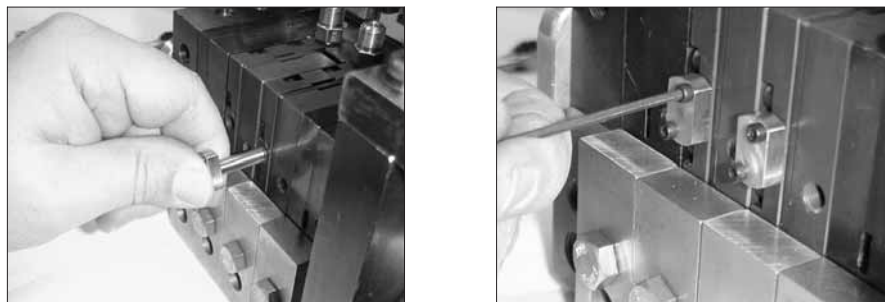

Figure 7-83 Installing the pump pressure transducer plugs
13. See Figure 7-83. Using an M2 hex wrench and being careful not to damage the O-rings, install the pump pressure transducer plugs.